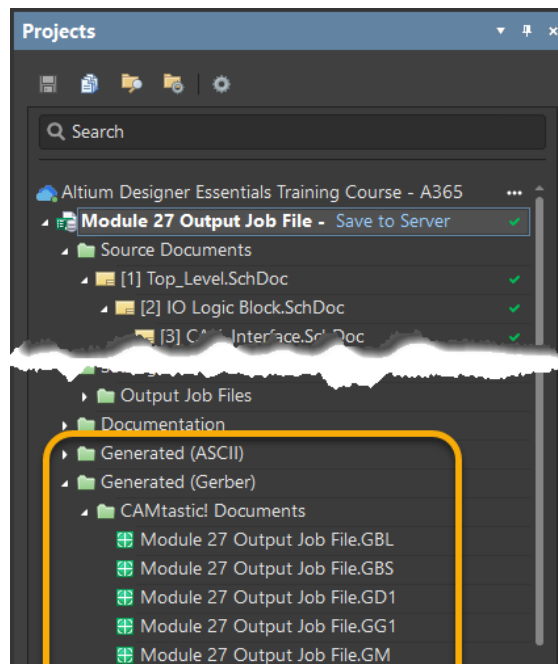

Figure 12. Folder Structure outputs generated from the Output Job
34. After the different Outputs are generated (this may take up to several minutes, depending on the Design size and PC performance) the individual outputs will appear at the *Projects* panel as shown in Figure 12.